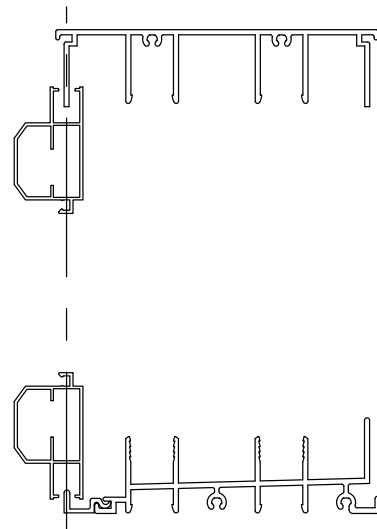

Figure 32
- 1) Position panel so that top of panel slips onto frame header fin. Swing bottom of panel in until bottom of panel is aligned over sill add on fin and set panel roller on fin. (See Figure 32)